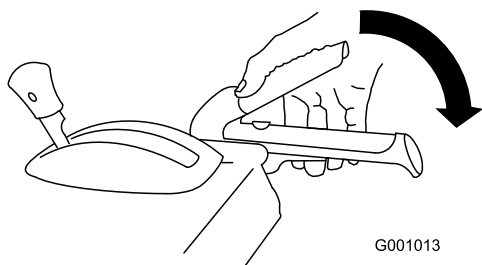

Figure 29
1. To engage the auger/impeller drive, squeeze the right (auger/impeller) lever to the handgrip (Figure 29).